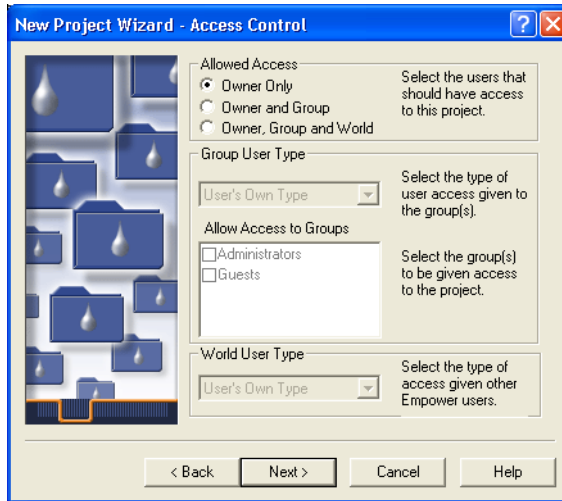

Figure 3-12 New Project Wizard–Access Control Page
5. Click **Next**. The Access Control page appears (Figure 3-12).